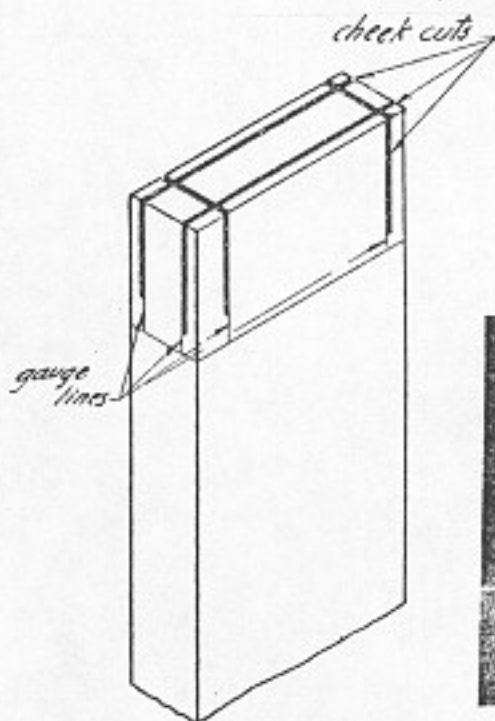

Fig. 246. Cheek cuts on a tenon partly sawed.
15. Next, the other cheek cuts are sawed, marking the width of the tenon (Fig. 246).